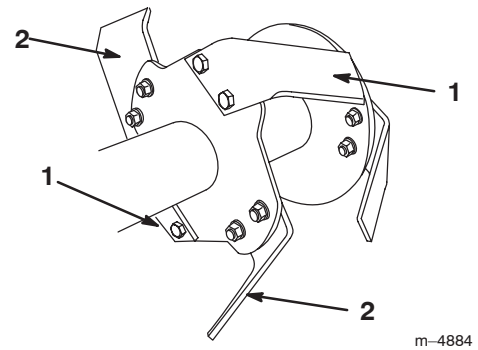

Figure 12
5. Remove old tines one at a time and install the new tines (Fig. 12).